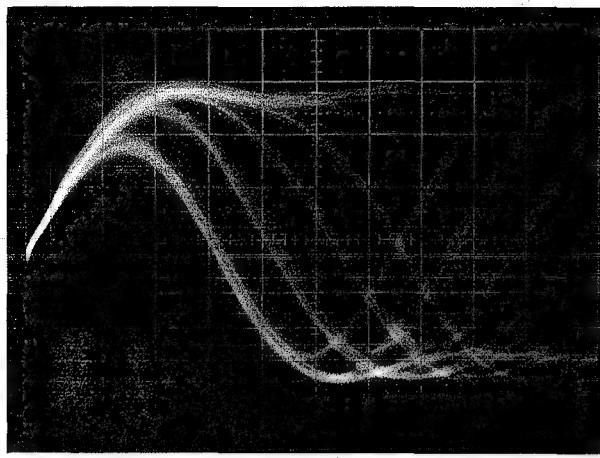

Fig. 46
2. Observe RFO in respect to VC in the oscilloscope, and adjust VR352-1 (FEB) to obtain maximum RF and optimum eye pattern. (See Fig. 46 and 47)